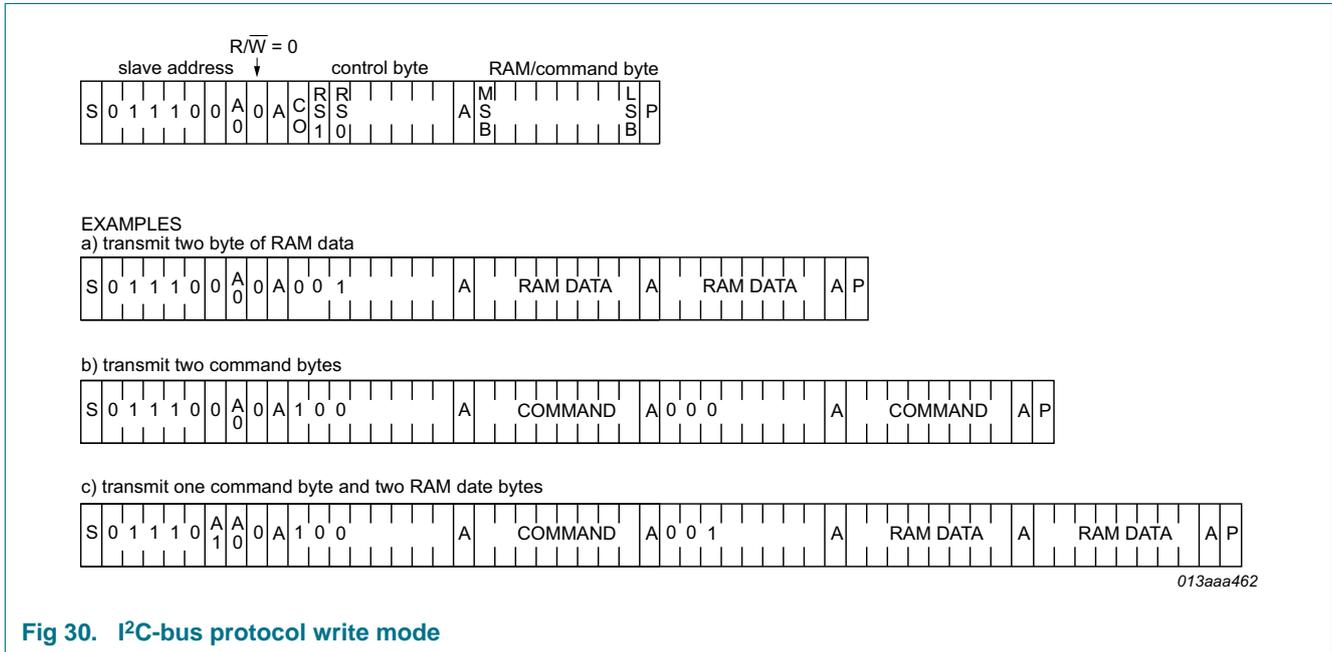

Fig 30. I2C-bus protocol write mode
The I2C-bus protocol is shown in Figure 30. The sequence is initiated with a START condition (S) from the I2C-bus master which is followed by one of the two PCF8545 slave addresses available. All PCF8545 with the corresponding A0 level acknowledge in parallel to the slave address. But any PCF8545 with the alternative A0 level ignore the whole I2C-bus transfer.